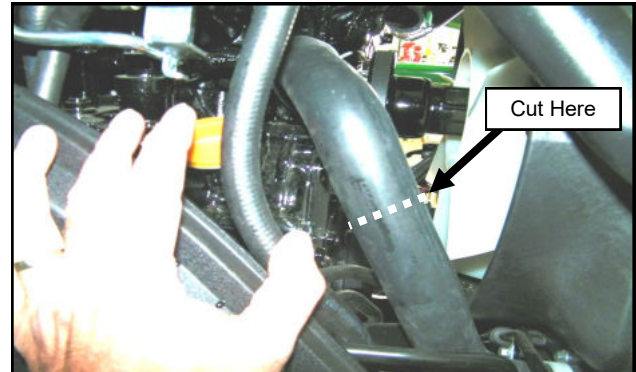

Fig. 20.2 (Cut Lower Radiator Hose)
- 20.2** Cut the lower radiator hose where shown. See Figure 20.2.